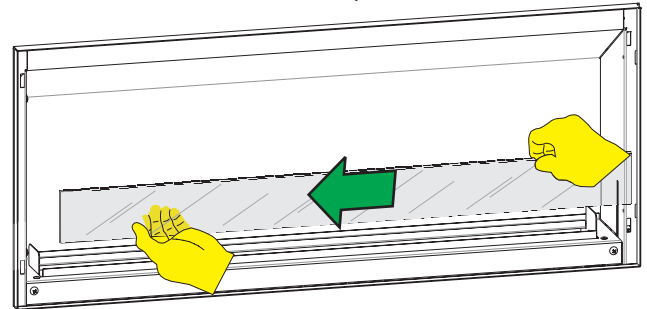

Figure 50
17. Install glass panel in front of burner as shown in **Figures 50 and 51**. Place one end into slot inside the fireplace as shown in **Figure 50**. Move other end of glass into fireplace opening and into slot on other side of fireplace. Move glass panel from side to side until it falls in place.